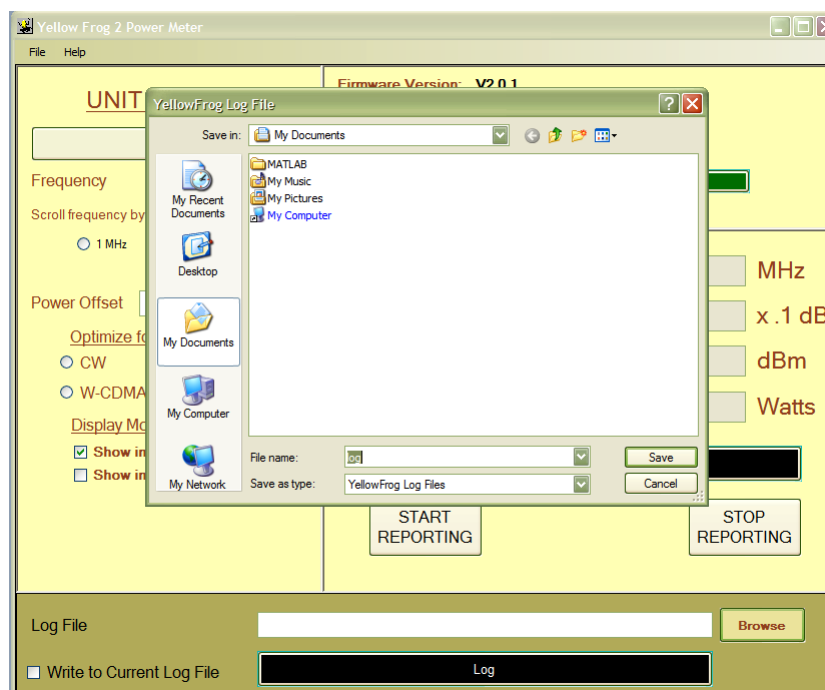

Figure 2. Initiating the Log File for Recording Measured Data
8. To record the measured data, left-click the “Browse” button at the bottom compartment in the YF2 Power Meter window and create a “log” file in the desired directory by pressing “Save” and checking the box in front of “Write to Current Log File” as seen in Figure 2 below. As long as the “START REPORTING” button is pressed, the data will be recorded, accompanied by the